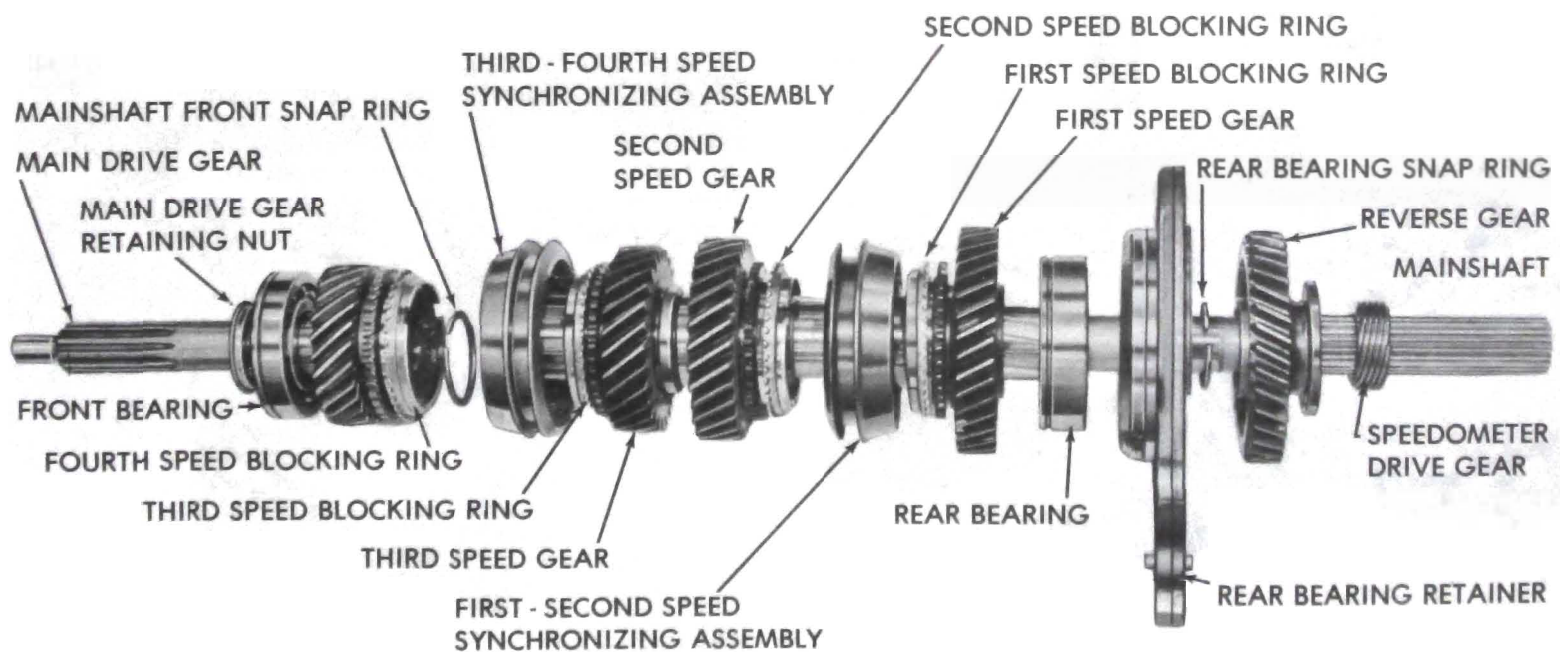

Figure 72-45 - Exploded View of Main Shaft Assembly
A. Disassembly - Refer to Figure 72-45
C. Assembly - Refer to Figure 72-45